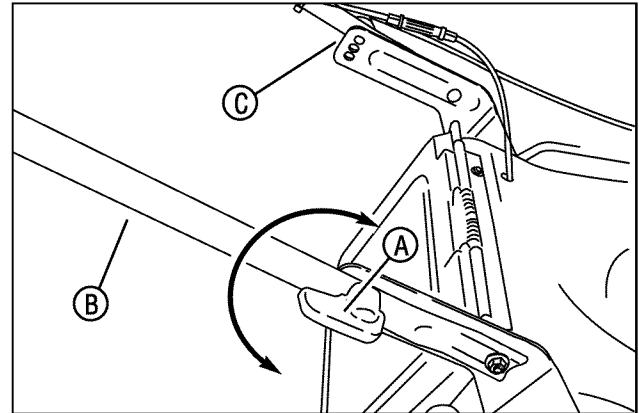

Figure 5: Adjusting the handle height
1. Turn the two locking cams (A, Figure 5) a quarter-turn to unlock the handle assembly (B).
2. Align the handle assembly with one of the three handle height adjustment holes (C) in the mounting brackets.